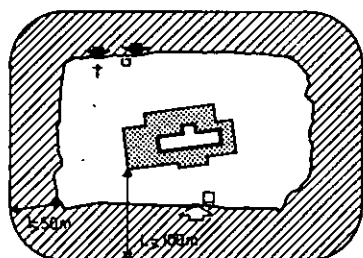

Fig. 5 Hospital sites in the city centre
- Hospital sites in the central area: when the hospital site is big enough, a strip around the site with a minimum width of 50 m (Fig. 5) will constitute a fair protection zone. However, the minimum distance from the hospital building to the external border of the protection strip should not be less than 100 m.